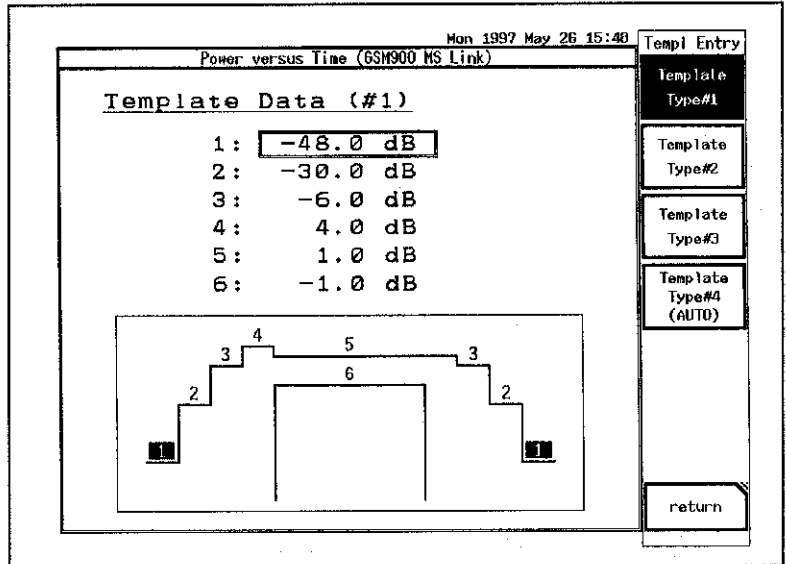

Figure 1-14 Display of Template Entry
**NOTE:** *The default template is as shown in Figure 1-14 due to shortage of the dynamic range. Because the specified dynamic range is not satisfied, use the template in combination with "Burst Env" measurement.*